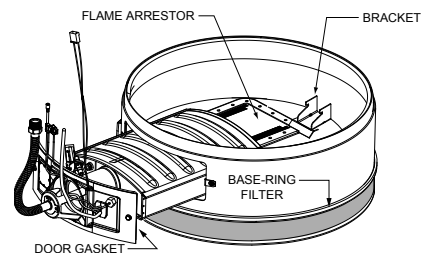

Figure 51 - Installing the burner assembly.
- 3 Insert the burner assembly into the burner compartment, making sure that the burner assembly sits firmly against the burner bracket inside the combustion chamber. See Figure 51.